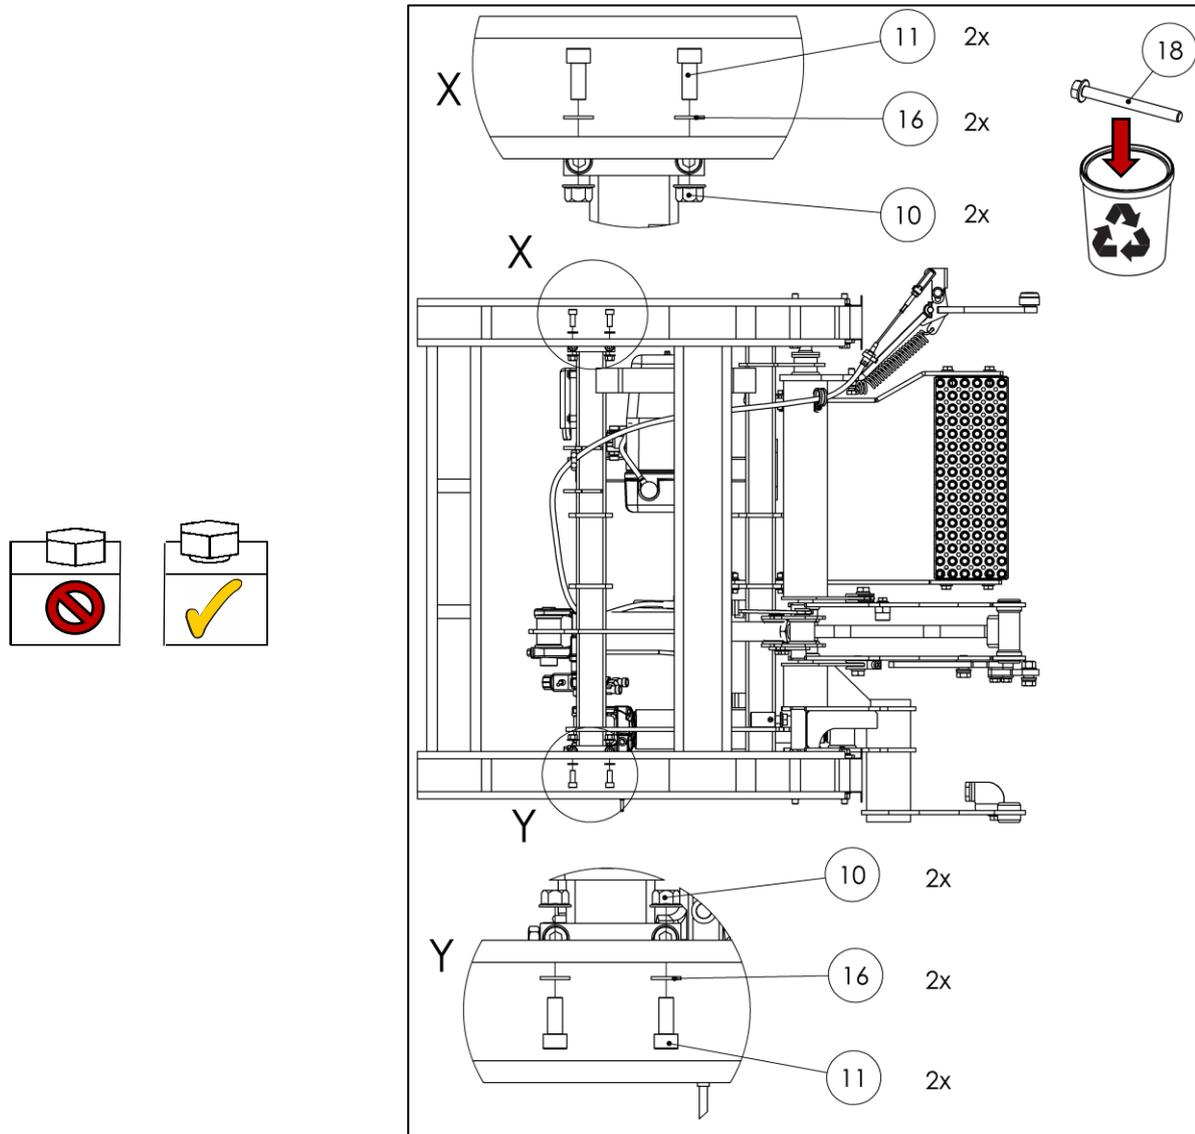

Fig. 30
- Insert the front bolts (**installation adapter kit – Part No. 22 911 216**) as viewed in the forward direction of travel and tighten until hand-tight as shown in Fig. 30.